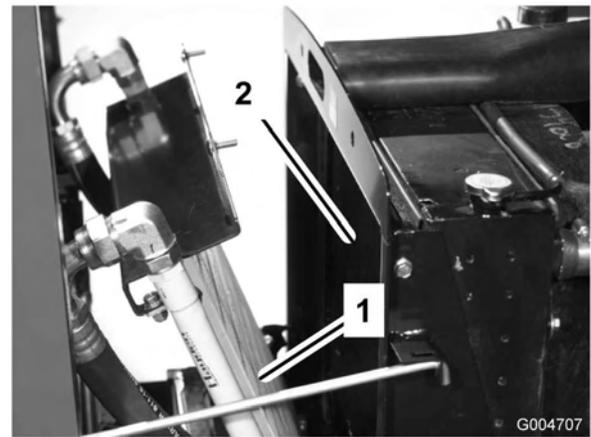

Figure 63
3. Pivot the oil cooler rearward. Clean both sides of the oil cooler and radiator area (Figure 63) thoroughly with compressed air.